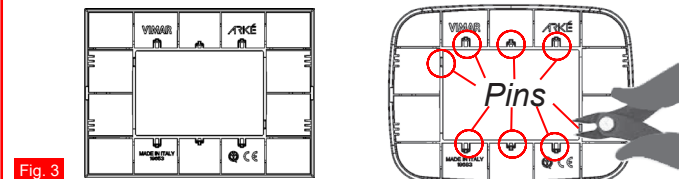

Fig. 3
N.B. For mounting plates VIMAR series **ARKE' Classic, ARKE' Round** versions (**Color-tech and Tecno-Basic**) remove with a cutter **8 pins** on the back of the plates **ARKE'** as shown in Figure 3.